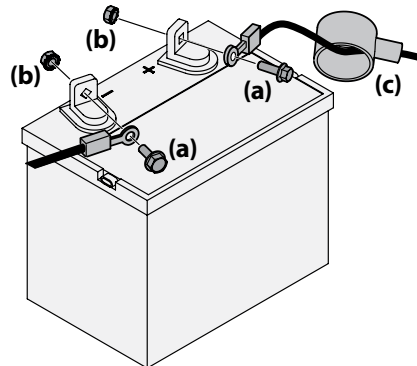

Figure 2-7
1. Remove the plastic cover, if present, from the positive battery terminal and attach the red cable to the positive battery terminal (+) with the bolt (a) and hex nut (b). See Figure 2-7.
2. Remove the plastic cover, if present, from the negative battery terminal and attach the black cable to the negative battery terminal (-) with the bolt (a) and hex nut (b). See Figure 2-7.